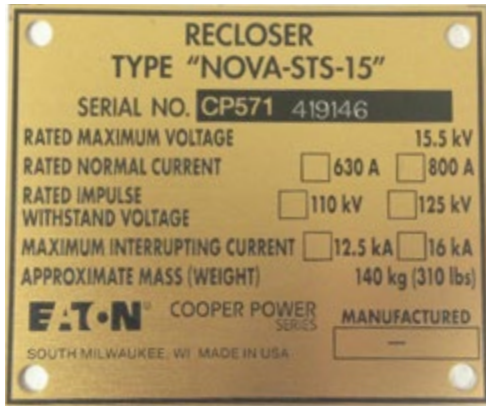

Figure 2. NOVA STS recloser data plate.
1. **Check the data plate ratings.** Make sure the ratings, settings, and interface options on each recloser data plate (see Figure 2) are correct for the planned installation.